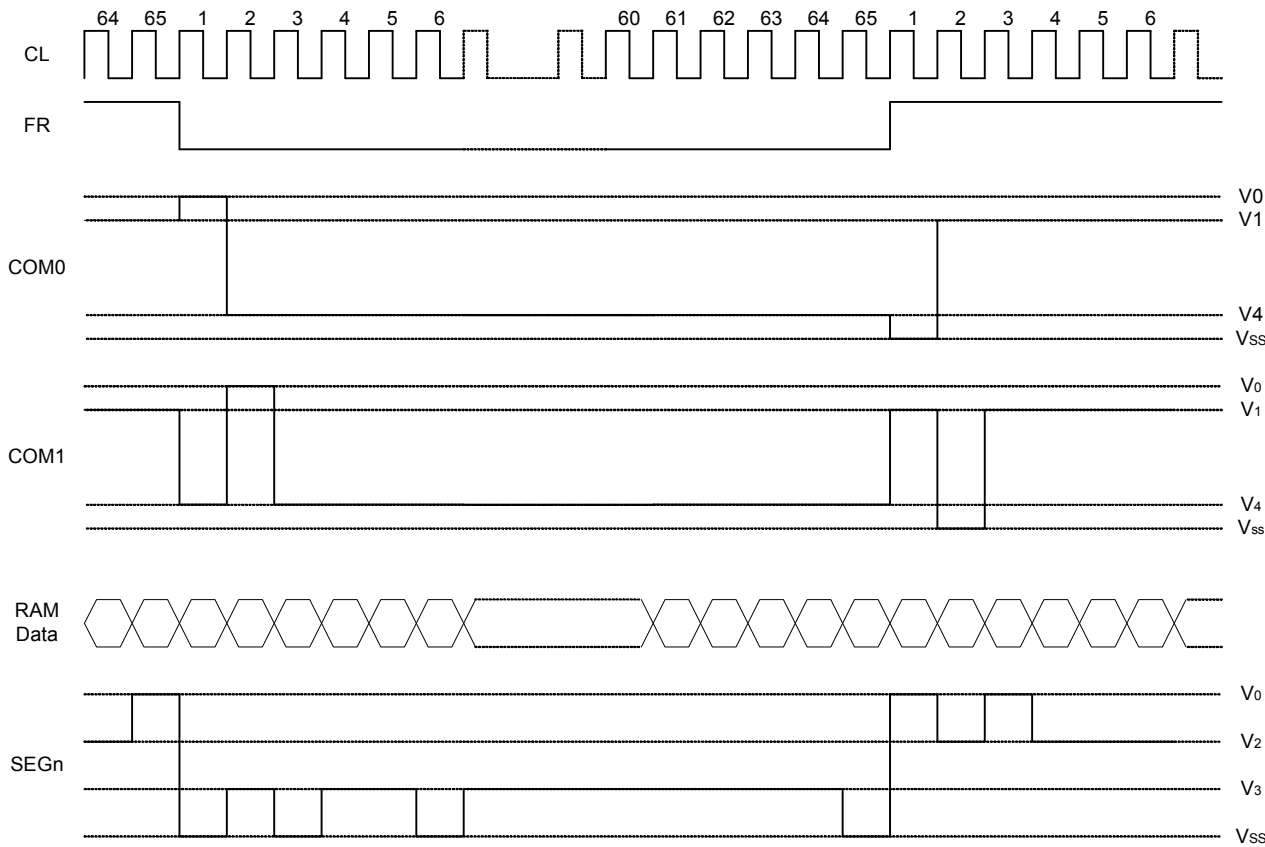

Figure 5
Moreover, the display timing generator circuit generates the common timing and the liquid crystal alternating current signal (FR) from the display clock. It generates a drive waveform using a 2 frame alternating current drive method, as is shown in Figure 5, for the liquid crystal drive circuit.